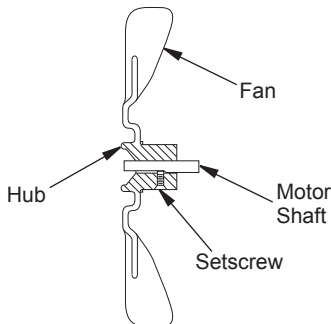

Figure 9 - Fan Cross Section
15. Replace fan on motor shaft. Make sure set-screw is touching back of flat surface on motor shaft (see Figure 9).